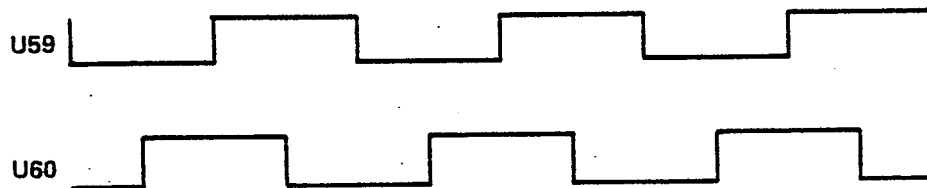

Figure 4-17. Encoder Output Signals
This produces two pulse waveforms (see Figure 4-17). The two detectors are physically positioned, in relation to the disk segments, so that one waveform either leads or lags the other by 90 degrees. Clockwise rotation of the tuning knob causes the output of U59 to lead that of U60 causing frequency entered to increase. Counter-clockwise rotation causes the waveform of U60 to lead that of U59 causing frequency to decrease. The outputs of the object sensors are coupled, through resistors R16 and R17, to a comparator U58A and U58B. The two inputs to this circuit are compared to a fixed dc voltage input to the comparator from resistor combinations (R8 and R10 for U58A and R9 and R11 for U58B) which control the comparator switching point. The square wave outputs of the comparator are routed to buffer U42B. This data buffer is enabled, from multiplexer U29, in program sequence to transfer the encoder data to data lines FP0 and FP1 for processing as described in item 5.